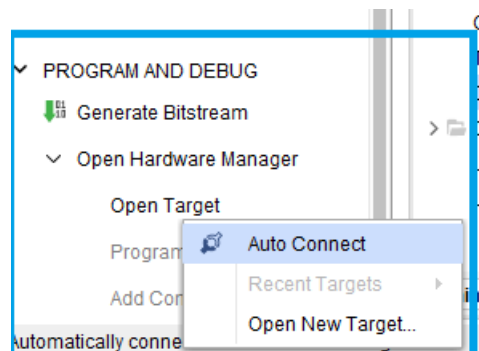

Fig. 3.9: Connecting FPGA to the computer.
1. Under the *Program and Debug*, click on *Generate Bitstream*. When the bitstream is generated, connect the FPGA to your computer with the cable. And under the *Open Hardware Manager* right click on *Open Target* and then click on *Auto Connect* (Fig. 3.9).